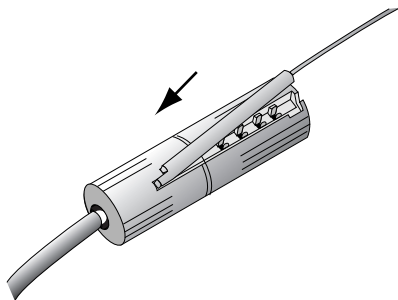

Figure 13. Secure stylet handle's end in groove.
- a. Place the stylet handle into the groove at a slight angle to secure the handle's end (Figure 13).